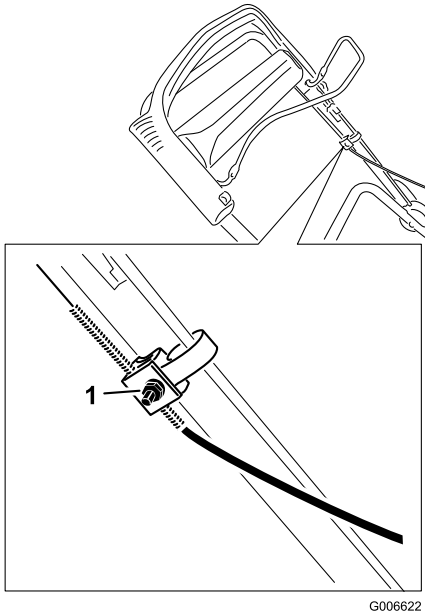

Figure 26
1. Loosen the nut on the cable mount (Figure 26).